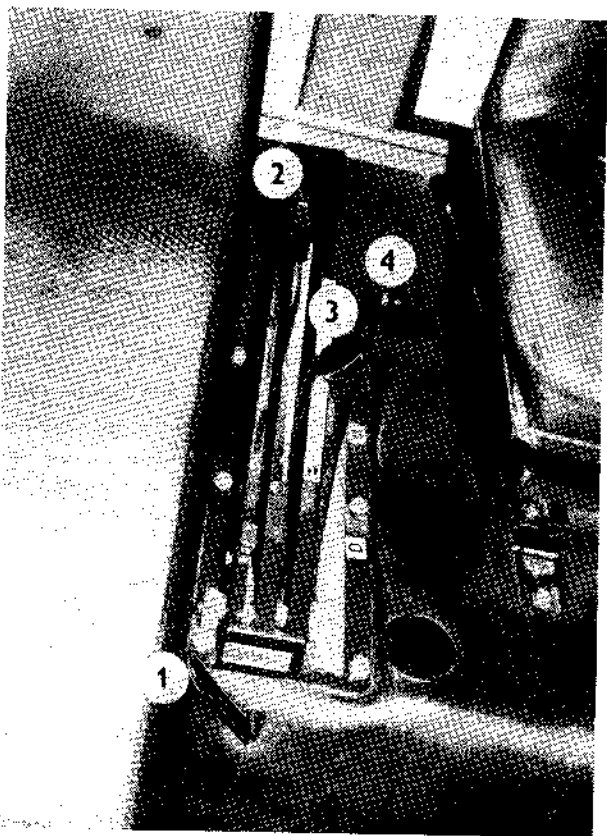

Fig. 20
7. Reaction rate lever (Fig. 20/1).
8. Hydraulic power lift outer circuit lever (Fig. 20/3).
9. Hydraulic power lift inner circuit lever (Fig. 20/2).
10. Hydraulic power lift system preselector (Fig. 20/4).
Hydraulic power lift system „ZETORMATIC“ is used to control agricultural machines and implements. It consists of two circuits, each of which is controlled by a separate lever — inner circuit (Fig. 20/2) and outer circuit control lever (Fig. 20/3). The functions of either circuit are designated by a label (Fig. 22 and 23).
1. Hydraulic power lift system preselector (Fig. 20/4) selects control type. Its three positions are designated by marks P, M, D (Fig. 22).
2. Reaction rate lever (Fig. 20/1) is intended to perform several functions:
If only the outer circuit is in operation and the inner circuit main lever is in neutral, the whole amount of oil is supplied to the outer circuit independently of the reaction rate lever position (Fig. 20/1). If the inner circuit lever is displaced into the position being 20 to 30°